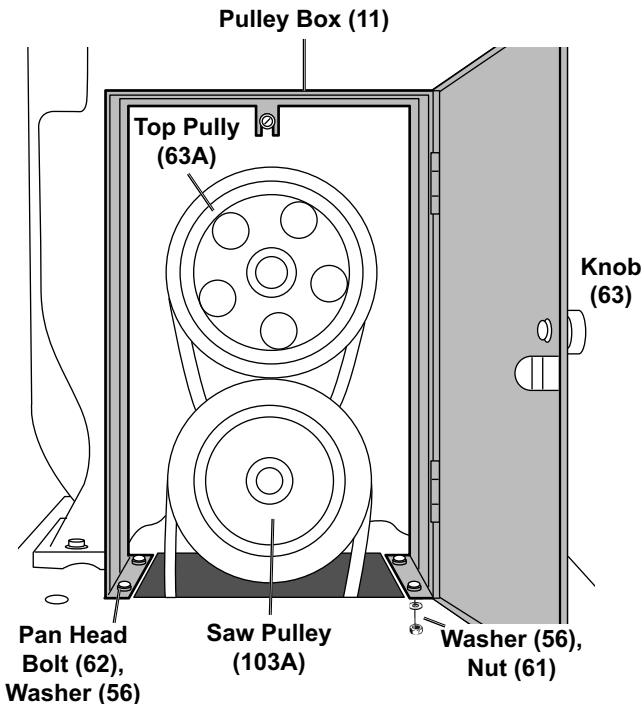

Figure 19
- Once the belts are installed, set the Pulley Box (11) over the Top Pulley (63A) and Saw Pulley (103A) with the door opening to the outside. See Figure 19.
- Insert a Pan Head Bolt (62) through a Washer (56) and into each of the four holes at the bottom of the Pulley Box. Secure the Bolts (62) from underneath using one Washer (56) and Nut (61) each.
- Secure the Knob (63) to the door using Bolt (54) and Washer (59) from the other side. **Do not overtighten.**